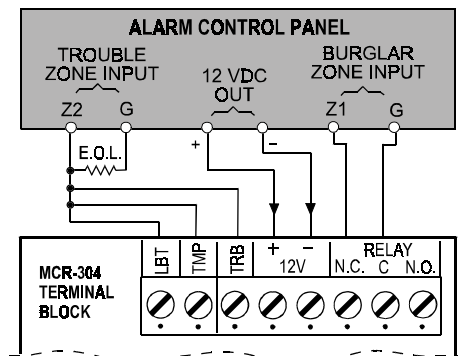

Figure 6. Wiring All 3 Status Outputs to a Single E.O.L. Zone
- If you prefer to use only one zone input for status alerts, connect all 3 status outputs of the MCR-304 to a single zone input of the control panel, as shown in Figures 6 (E.O.L. option) and 7 (relay option).